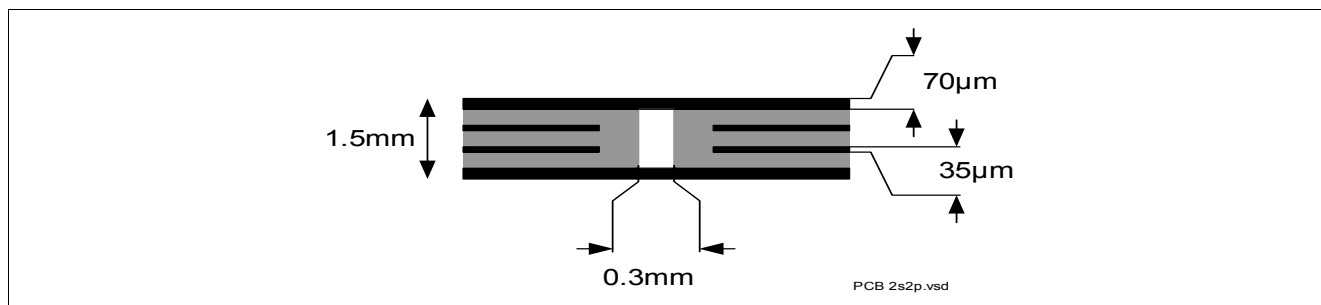
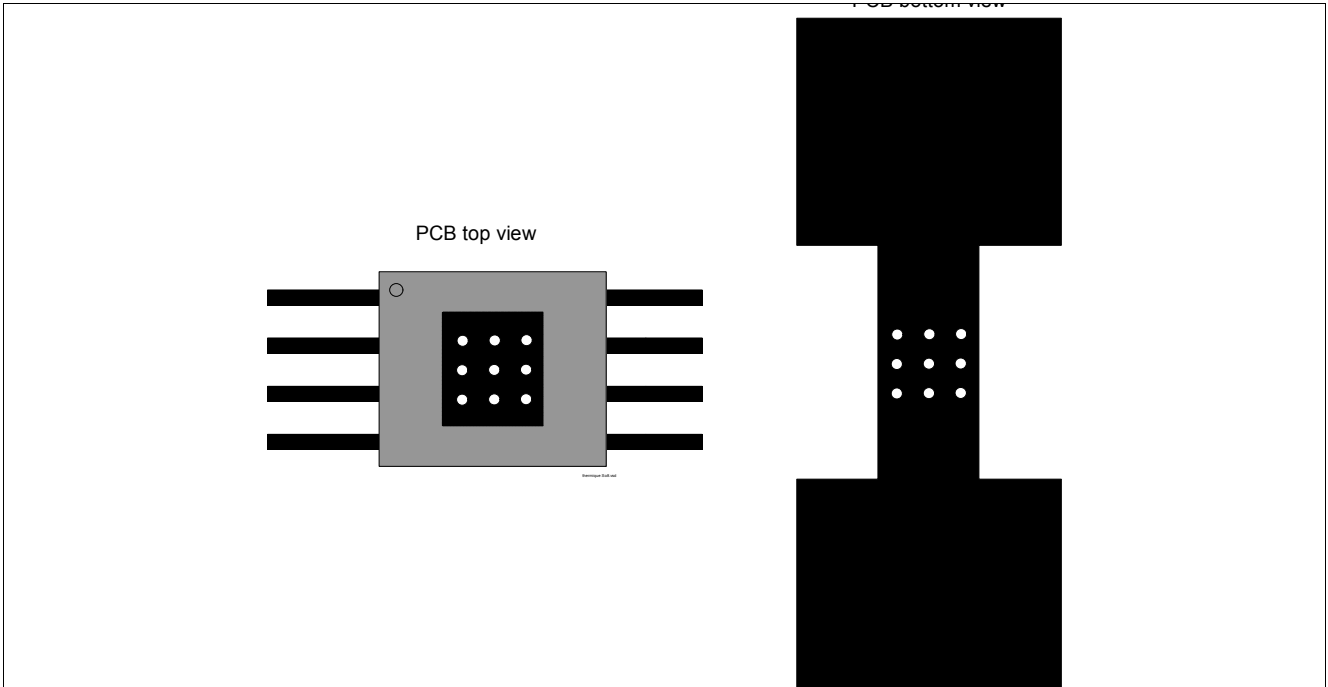

Figure 4 2s2p PCB Cross Section
Figure 5 PC Board Top and Bottom View for Thermal Simulation with 600mm² Cooling Area
2) Specified R_{thja} value is according to JEDEC JESD51-2,-5,-7 at natural convection on FR4 2s2p board; The product (chip + package) was simulated on a 76.4 x 114.3 x 1.5 mm board with 2 inner copper layers (2 x 70µm Cu, 2 x 35 µm Cu). Where applicable, a thermal via array under the exposed pad contacts the first inner copper layer. Please refer to Figure 4 and Figure 5.